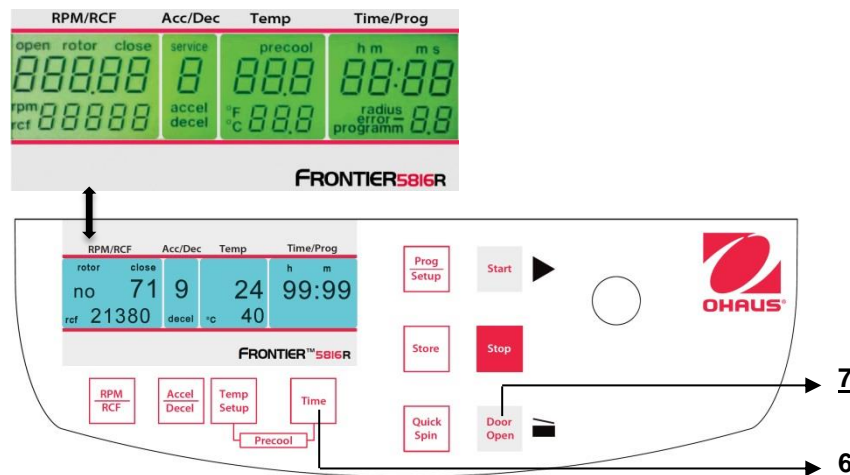

Figure. 29
While the centrifuge is turned off, press simultaneously the keys **"Time"**(6) and **"Door Open"** (7) and turn on the main switch of the centrifuge. Now release both keys and as a result a display test is executed for approx. 5 seconds. All indicators will appear at the same time (See figure 29).